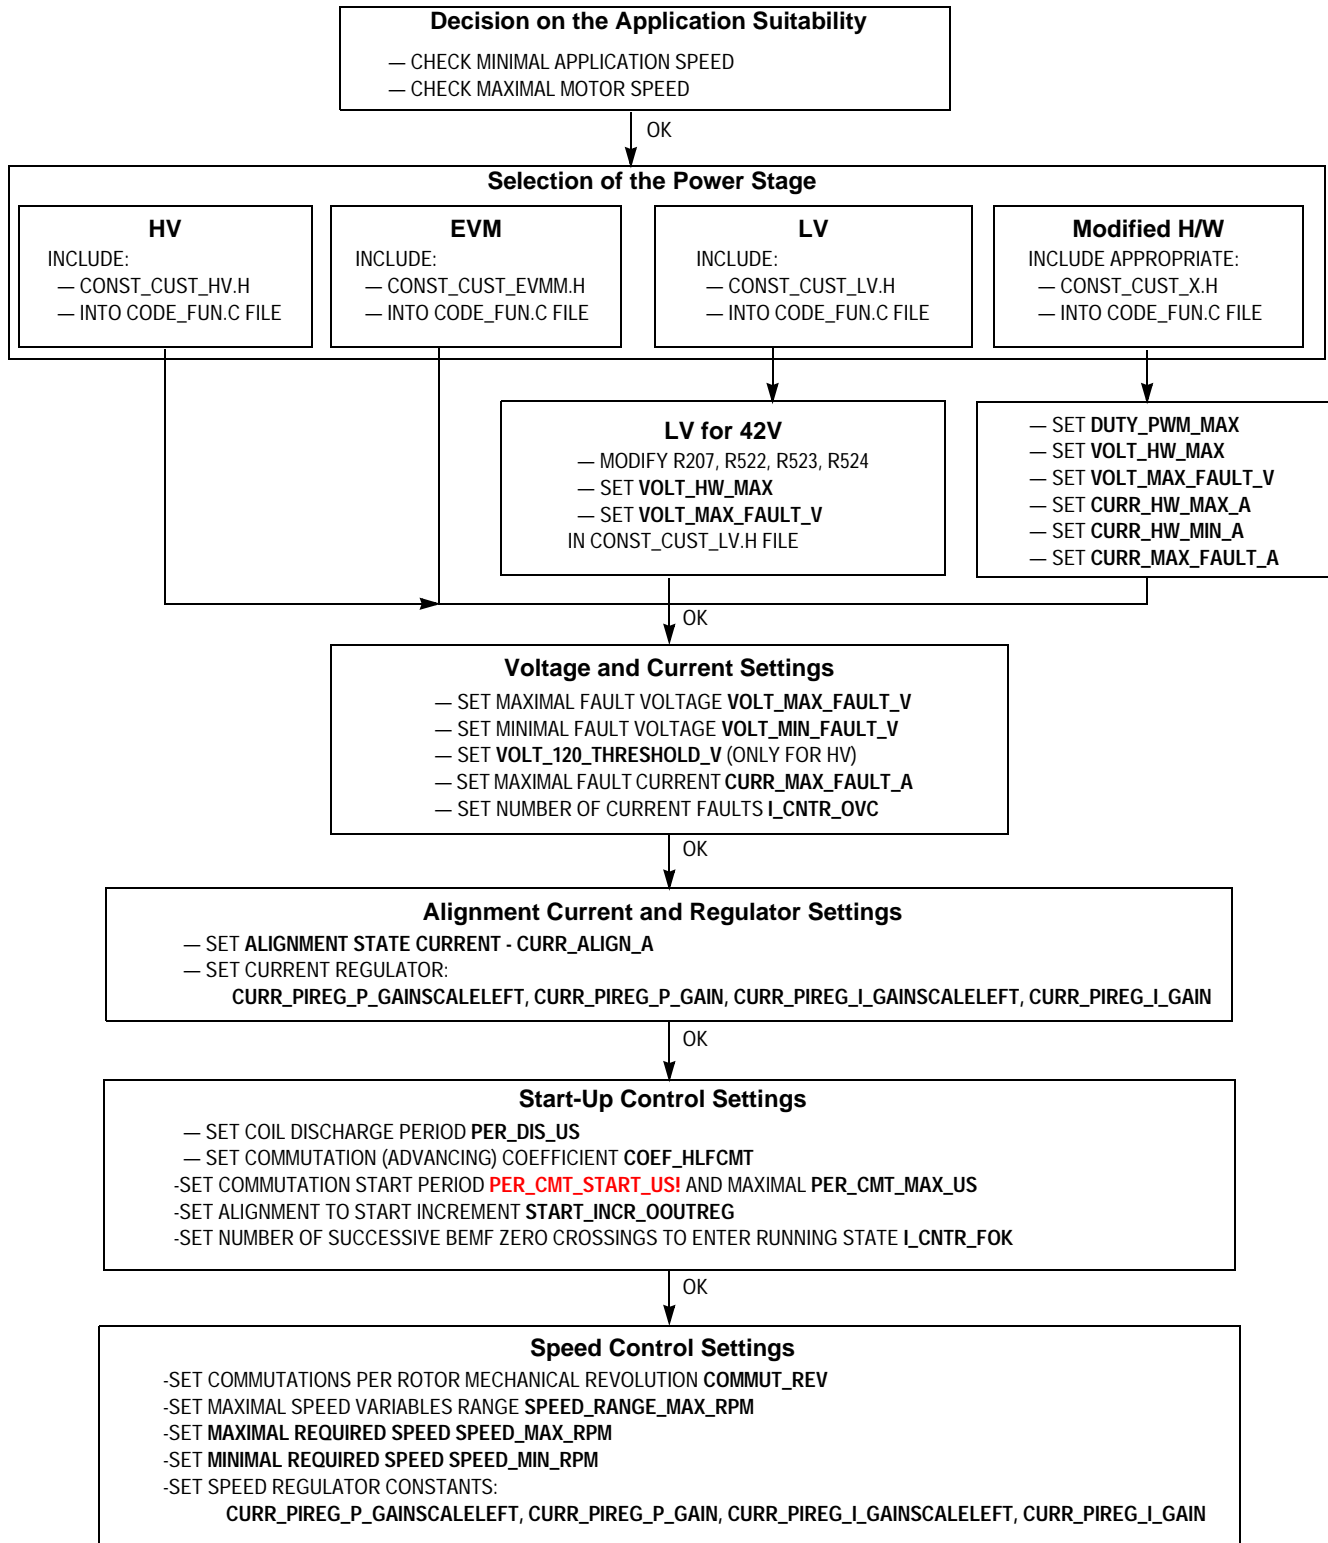

Figure 10. Follow-up for Software Customizing to Customer Motor
- A follow-up for software customizing to a customer motor is shown in Figure 10.